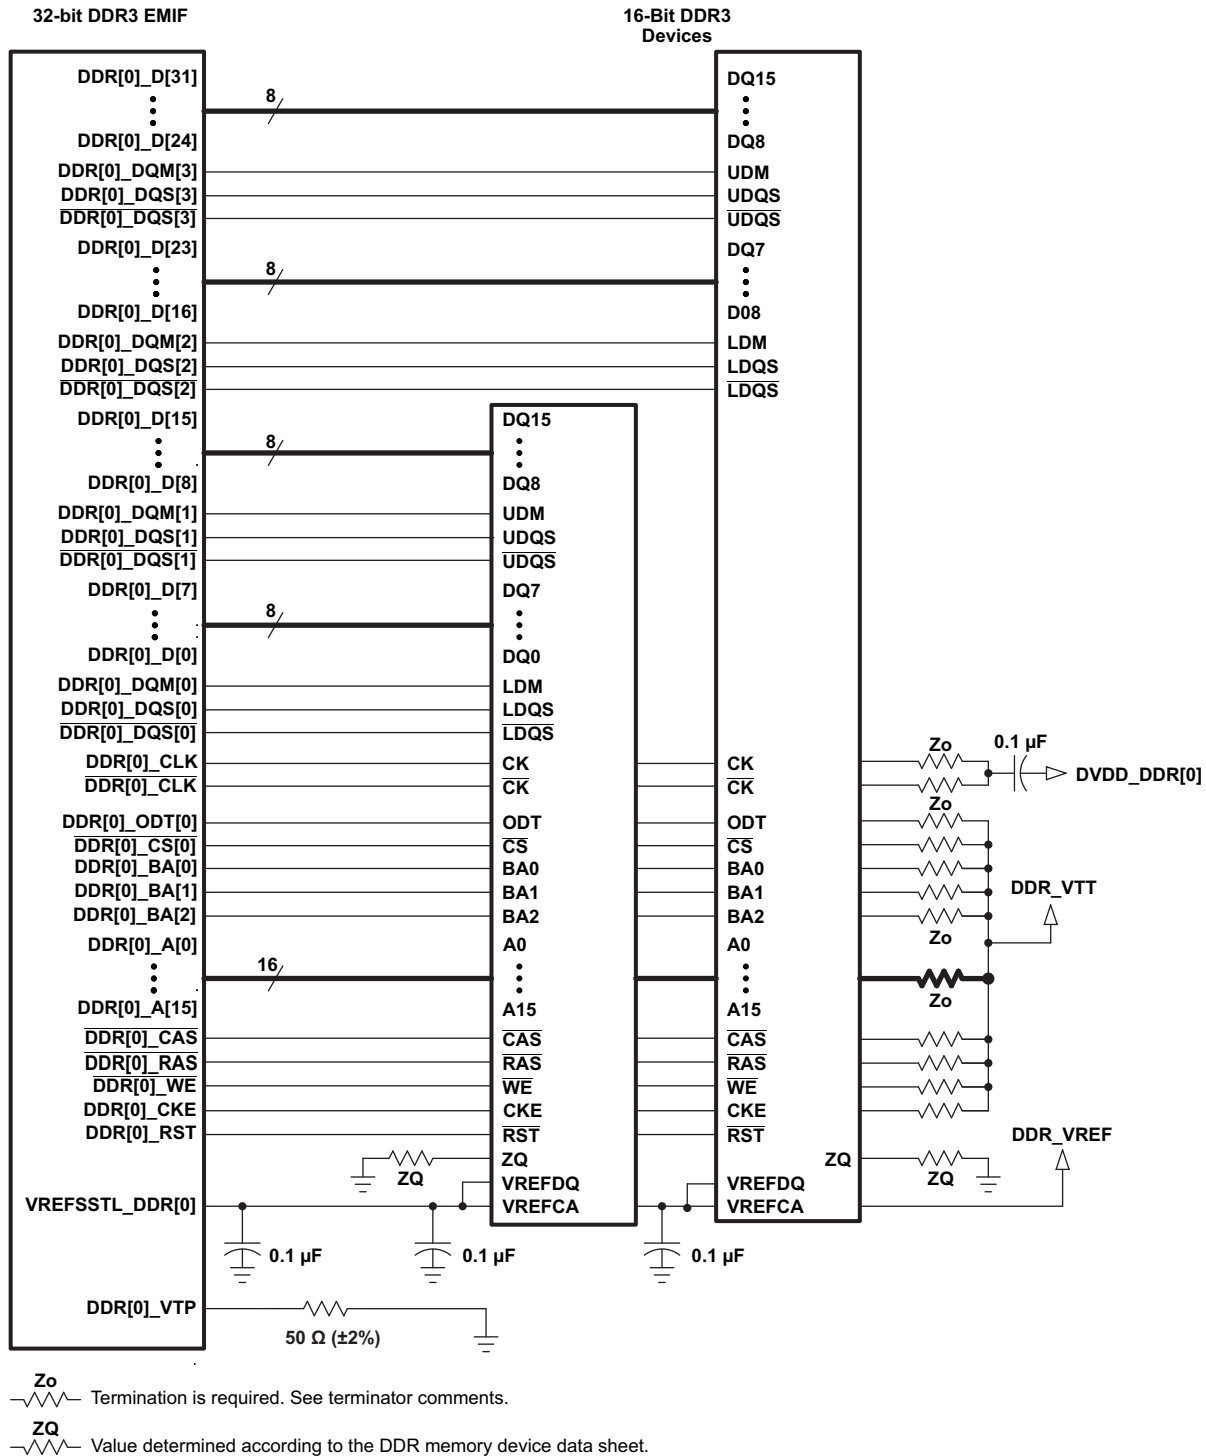

Figure 8-45. 32-Bit, One-Bank DDR3 Interface Schematic Using Two 16-Bit DDR3 Devices
The DDR3 interface schematic varies, depending upon the width of the DDR3 devices used and the width of the bus used (16 or 32 bits). General connectivity is straightforward and very similar. 16-bit DDR devices look like two 8-bit devices. Figure 8-45 and Figure 8-46 show the schematic connections for 32-bit interfaces using x16 devices.
Note that the 16-bit wide interface schematic is practically identical to the 32-bit interface (see Figure 8-45 and Figure 8-46); only the high-word DDR memories are removed and the unused DQS inputs are tied off. The processor `DDR[0]_DQS[2]` and `DDR[0]_DQS[3]` pins should be pulled to the DDR supply via 1-kΩ resistors. Similarly, the `DDR[0]_DQS[2]` and `DDR[0]_DQS[3]` pins should be pulled to ground via 1-kΩ resistors.
(1) DDR3 speed grade depends on desired clock rate. Data rate is 2x the clock rate. For DDR3-800, the clock rate is 400 MHz.
(2) DDR3 devices with higher speed grades are supported; however, max clock rate will still be limited to 533 MHz as stated in Table 8-46 *Switching Characteristics Over Recommended Operating Conditions for DDR3 Memory Controller*.
(3) For valid DDR3 device configurations and device counts, see Section 8.12.3.3, Figure 8-45, and Figure 8-46.